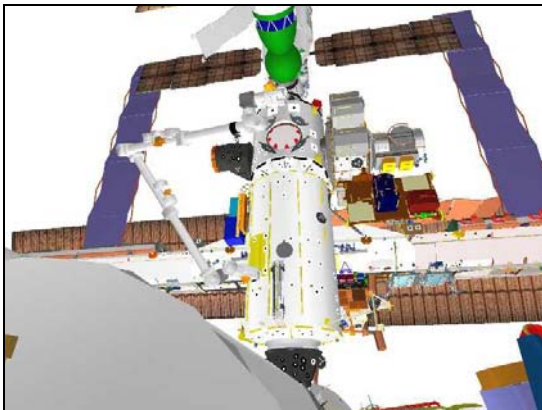

Figure 1.- Undock Viewing
1. A minimum set of test probes are required for voltage and continuity measurements. The following list only includes minimum required probes needed for transfer. Additional accessories may be left in kit. If items missing, check another "Old" Scopemeter Kit. Do not scavenge from "New" Scopemeter kits. Refer to Figure 1.